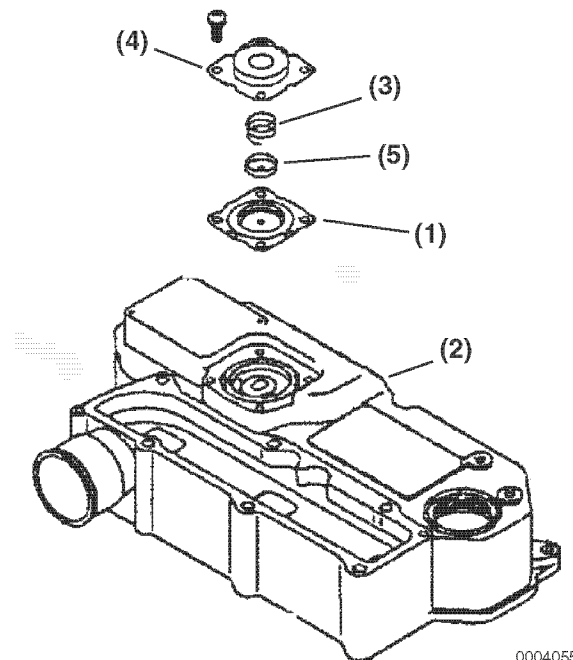

Figure 5-18
The non-turbo TNV engines use a crankcase breather system that has a spring-backed diaphragm (Figure 5-18, (1)) in the valve cover (Figure 5-18, (2)). When the crankcase pressure reaches a predetermined value, the diaphragm opens a passage that allows crankcase fumes to be routed to the intake manifold.
To inspect the diaphragm and spring (Figure 5-18, (3)):
1. Remove the bolts retaining the diaphragm cover (Figure 5-18, (4)).
2. Remove the diaphragm cover, spring, diaphragm plate (**Figure 5-18, (5)**) and diaphragm.